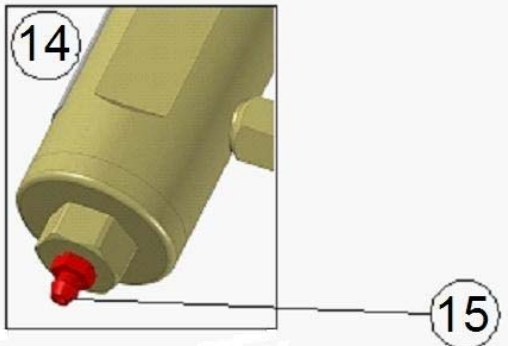

Figure 7 Grease filter (14), venting screw (15)
Warning Ensure that there is no pressure in the system. Before opening the grease filter, remove pressure by opening the venting screw in the filter plug (→ **Figure 7, (15)**). If the system is under pressure when the components are being disconnected or opened, the components or lubricant might be flung in the air causing injury to people or damage to the environment.
- 13 Perform a test run with the "Extra lubrication" button at the pumping unit (5) or at the external control center.
Warning Ensure that the system is not under pressure while you are replacing a lubricant barrel. Before opening the grease filter, remove pressure by opening the venting screw in the filter plug (→ **Figure 7, (15)**). If the system is under pressure when the components are being disconnected or opened, the components or lubricant might be flung in the air causing injury to people or damage to the environment.
- 7 Remove pressure from the grease filter (4) by opening the venting screw in the filter plug (→ **Figure 7, (15)**).
- 10 Perform a test run with the "Extra lubrication" button at the pumping unit (5) or at the external control center.